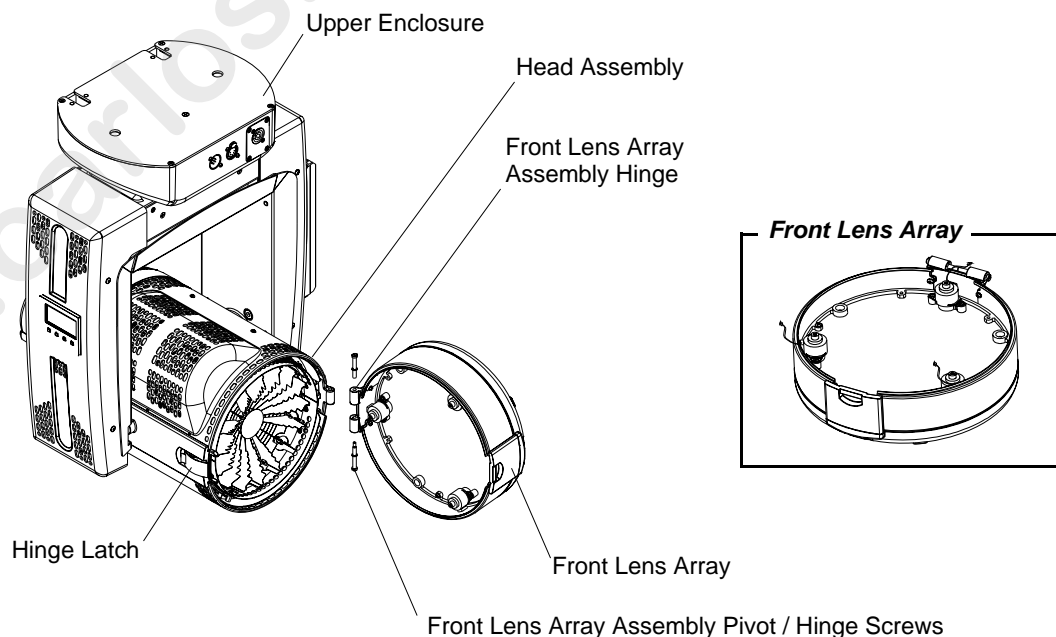

Figure A-3: Zoom Array Assembly Removal
- Step 3. At head assembly, unlatch front lens array assembly as shown in Figure A-3.